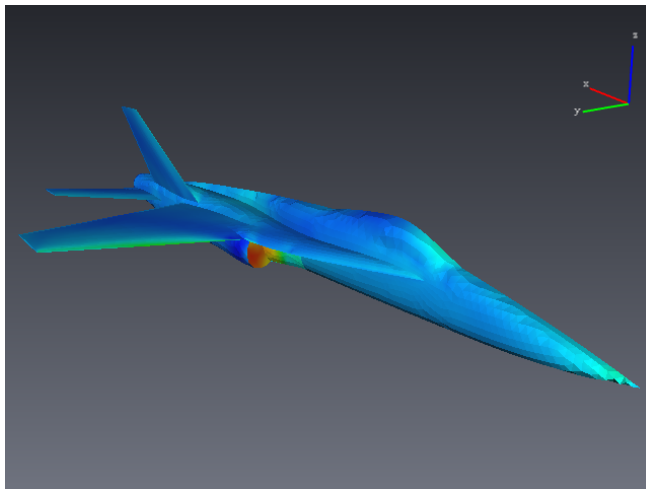

Figure 20.75: Pressure field on the boundaries of a YF-17 Cobra aircraft.
- Enlarge the view and rotate it in order to get a better image of the aircraft (see Figure 20.75).